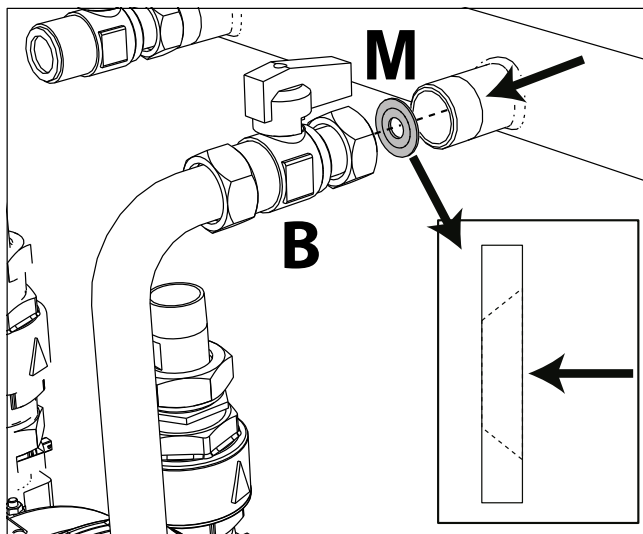
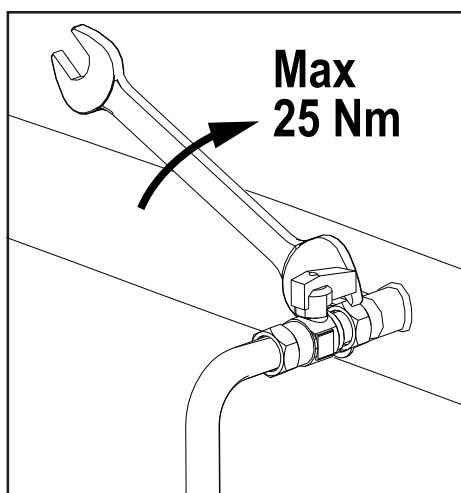

fig. 84- Nozzle for use with LPG
fig. 85
8. In case of **conversion to LPG**, the existing gasket between cock "B" and gas manifold must be replaced with nozzle "M" (fig. 84). Re-fit cock "B" on the gas manifold, taking care to keep tightening torque below **25 Nm** to avoid damaging the nozzle (fig. 85).
ATTENTION: The nozzle "M" (see fig. 84) **must not** be inserted with the unit running on **Natural Gas**.